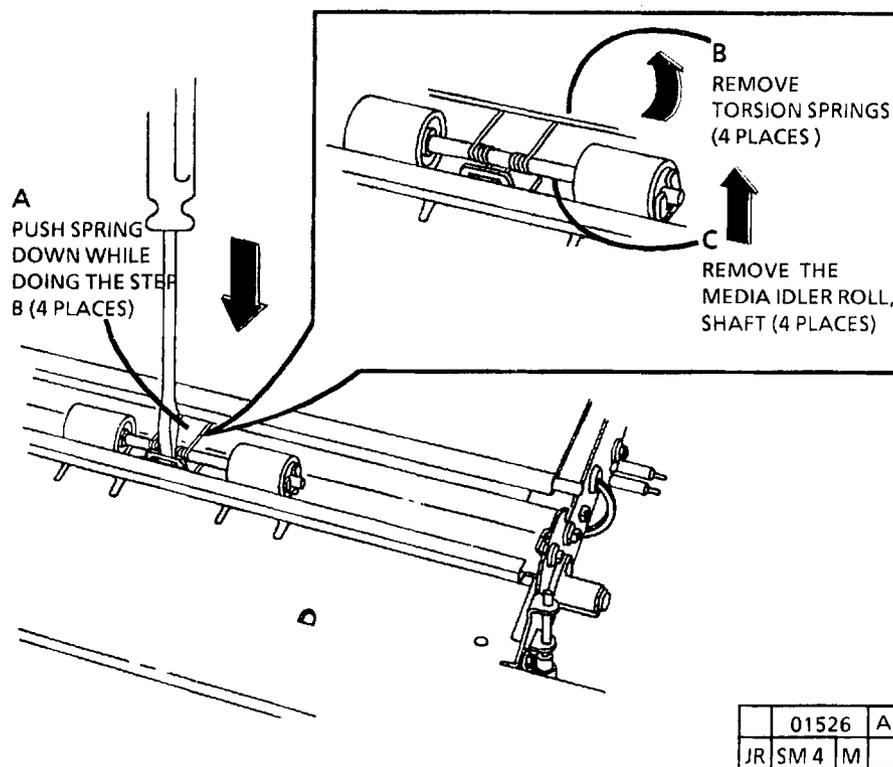

Figure 1. Remove the Lower Media Feed Rolls
- (FIGURE 1): REMOVE THE LOWER MEDIA FEED ROLLS.